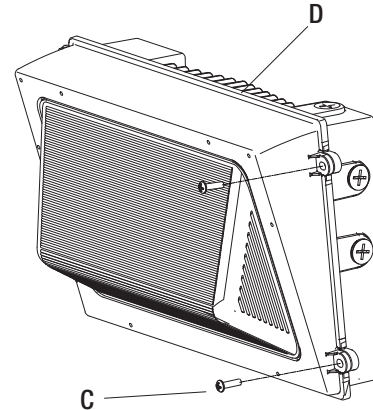

Fig. 1
- Loosen the two mounting base screws (C) using a Phillips screwdriver to open the fixture. (Fig. 1)